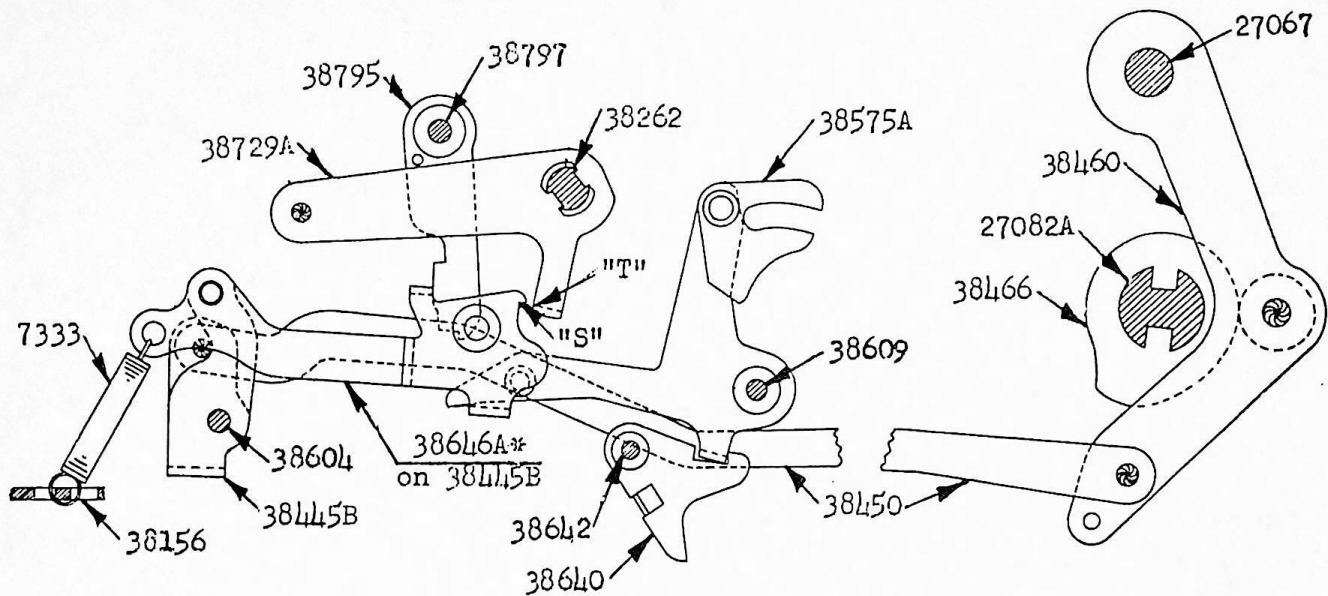

FIG. 47
1. (Fig. 47). During the Setting Cycle on X-Key operation the Set-
ting Link-38646A* rocked the Shift Latch Lever-38795 rearward to release the Shift Lever-39840A and its Bail-38260. (Section V-Para. D-2, Page 1263). The ear on 39840A then holds 38795 in such a position that the Setting Link on its way back to its normal position could snap up to a position shown in Fig. 47. Rotation of the Setting Line, as initiated by the Equals Key, now causes surface "S" on 38646A* to contact ear "T" on the Multiplier Sensing Lever-38729A and rock 38729A counter-clockwise.